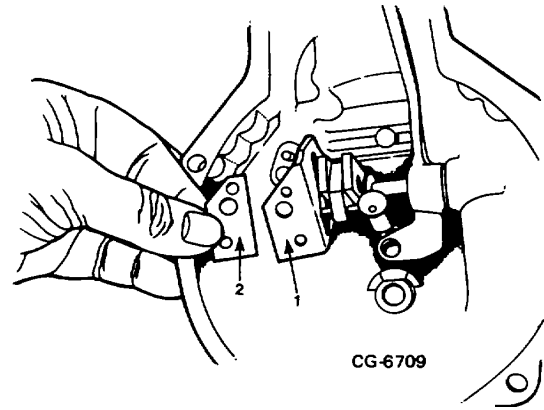

Figure 15. Locating for S-Plate Shim Adjustment
9. Add shims under S-plate mounting to decrease basic setting or remove shims to increase basic setting (Figure 15). Check for free travel of guide pin shaft in S-plate after resetting. Check to be sure cotter pin has been used to secure pin between rack link and floating lever.